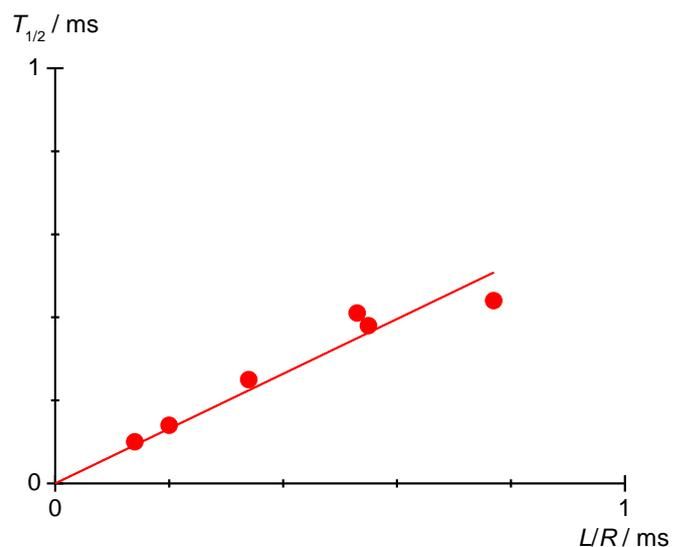

Fig. 6: Half-life $T_{1/2}$ as a function of L / R .
- Plot the half-life periods $T_{1/2}$ from Table 5 against the quotients L/R on a graph and fit a straight line through the origin (Fig. 6).
- To check equation (3) with the measured gradient m , compare it to the expected coefficient of proportionality $\ln 2$.